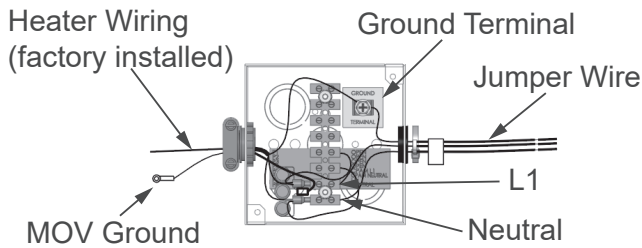

Figure 73. Power Supply Connections
The 120 VAC hot wire from the power supply must connect to the black jumper wire or the "L1" terminal block location in the junction box and the 120 VAC neutral wire must connect to the white jumper wire or the "Neutral" terminal block location in the junction box for correct polarity. See **Figure 73**.
4. Connect the 120 VAC hot wire from the power supply to the black jumper wire or the terminal block location marked "L1" inside of the junction box located on top of the water heater. If the black jumper wire is used, make the connection inside of the junction box with a properly sized wire nut and wrap electrical tape around the wire nut and wire end. See **Figure 73** (page 54) and wiring diagrams, **Figure 88** (page 102), **Figure 89** (page 103), and **Figure 90** (page 104).
5. Connect the 120VAC neutral wire from the power supply to the white jumper wire or the terminal block location marked "Neutral" inside of the junction box located on top of the water heater. If the white jumper wire is used, make the connection inside of the junction box with a properly sized wire nut and wrap electrical tape around the wire nut and wire end. See **Figure 73** (page 54) and wiring diagrams, **Figure 88** (page 102), **Figure 89** (page 103), and **Figure 90** (page 104).
6. Connect the ground wire from the power supply to the green jumper wire or the ground terminal location inside of the junction box located on top of the water heater. If the green jumper wire is used, make the connection inside of the junction box with a properly sized wire nut and wrap electrical tape around the wire nut and wire end. See **Figure 73** (page 54) and wiring diagrams, **Figure 88** (page 102), **Figure 89** (page 103), and **Figure 90** (page 104).